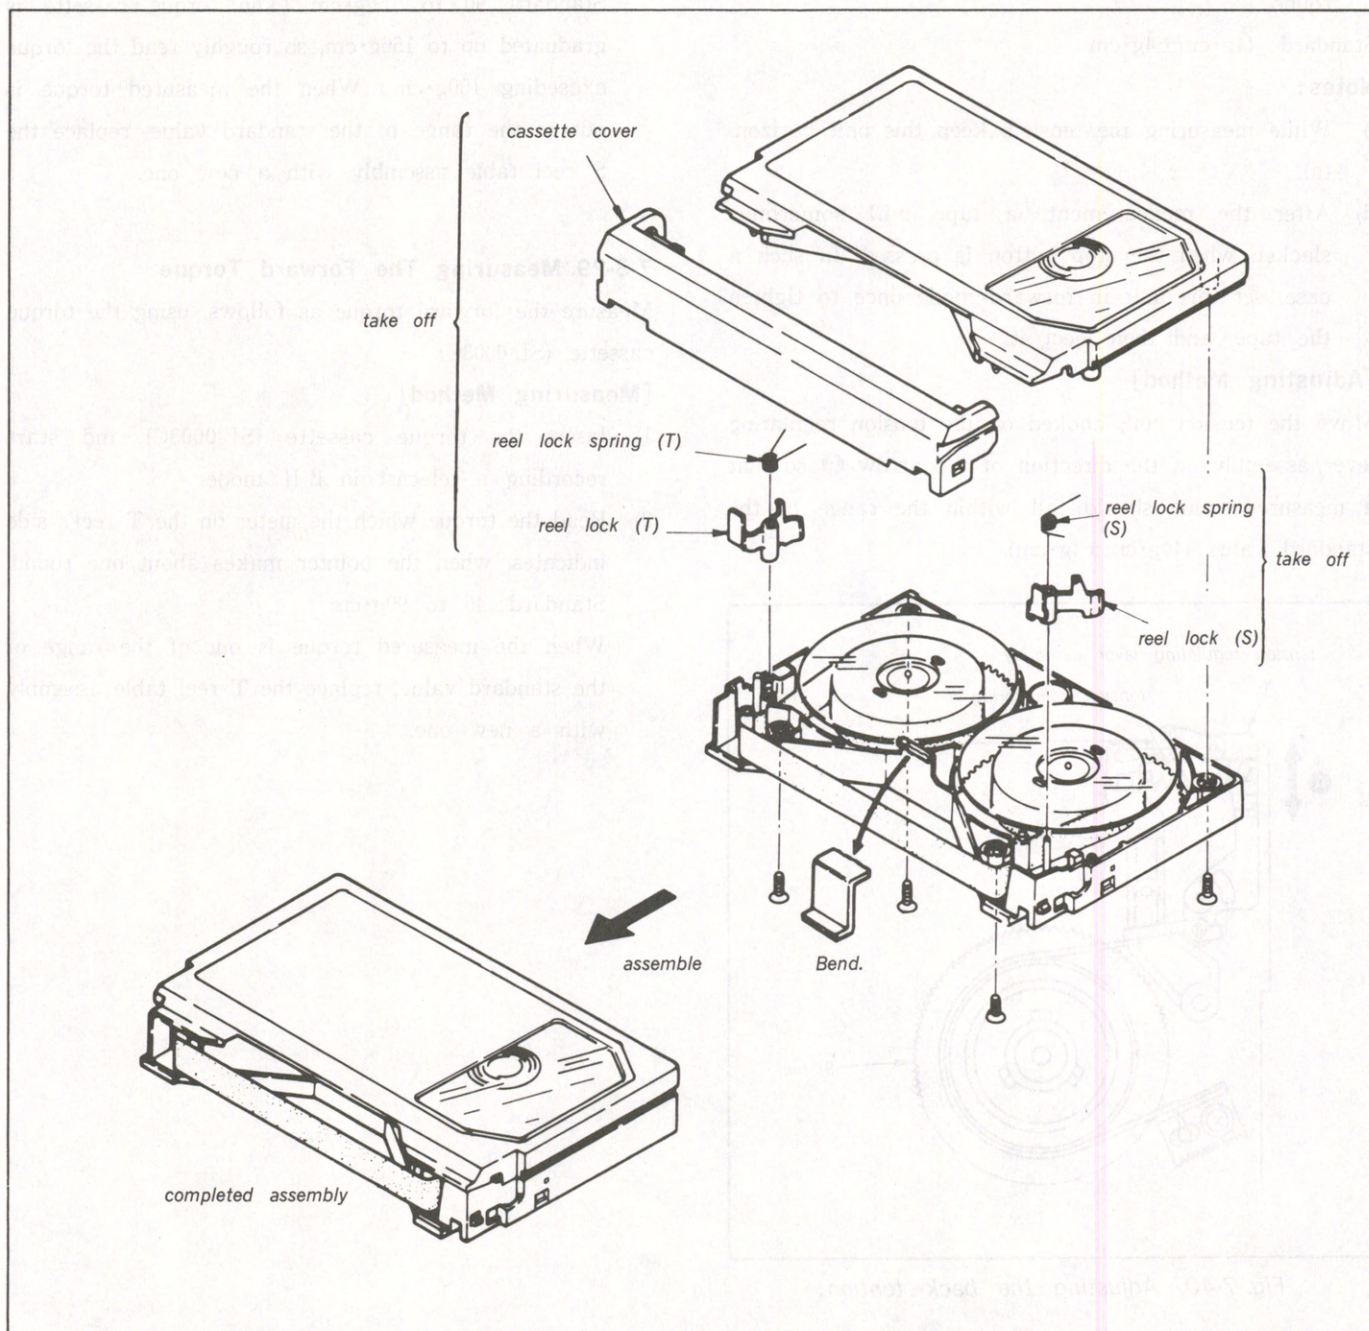

Fig. 7-41.
- 1) Take off the alignment tape cassette cover, as shown in Fig. 7-41.